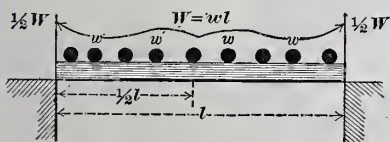

Fig. 15.—Beam Supported at Both Ends, Loaded Uniformly.
4. For a beam supported at both ends, Fig. 15, and loaded uniformly for each unit of its length with w , so that $wl = W$, the maximum moment will be at the center of gravity of the load, or distant $\frac{1}{2}l$ from either abutment, and the abutment reaction $\frac{1}{2}W$. But the reaction being upward, we must subtract